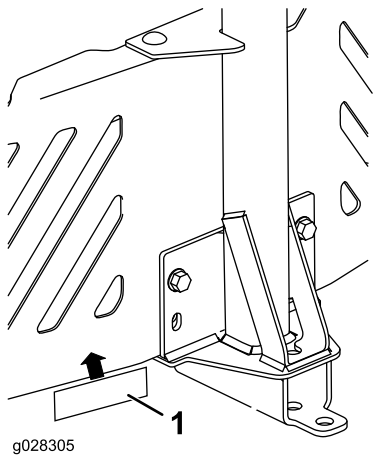

Figure 4
4. Attach the draw bar decal 1.3 cm (1/2 inch) to the left of the attachment mount (Figure 4).